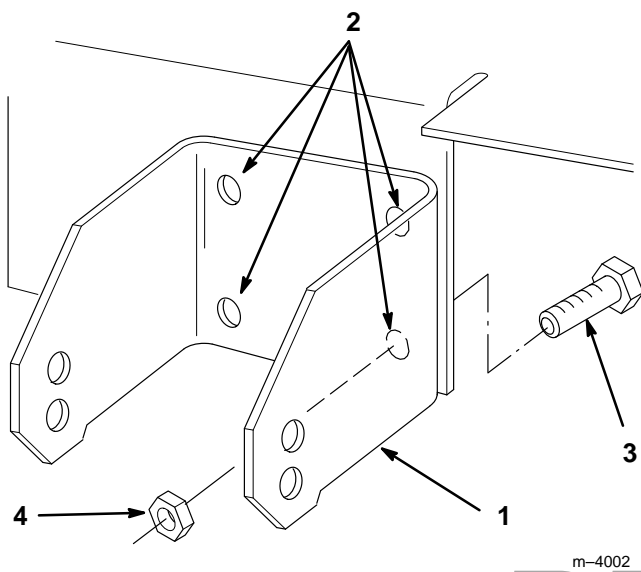

Figure 1
2. Clamp roller bracket against rear of mower, next to side of discharge opening and flush with the bottom of the mower (Fig. 1).
3. Using bracket as a guide, center punch, pilot drill, then drill (4) 13/32" (10.5 mm) holes in the mower (Fig. 1).
4. Insert (4) 3/8-16 x 1" (26 mm) bolts through from inside mower and secure with (4) 3/8-16 locknuts (Fig. 1).